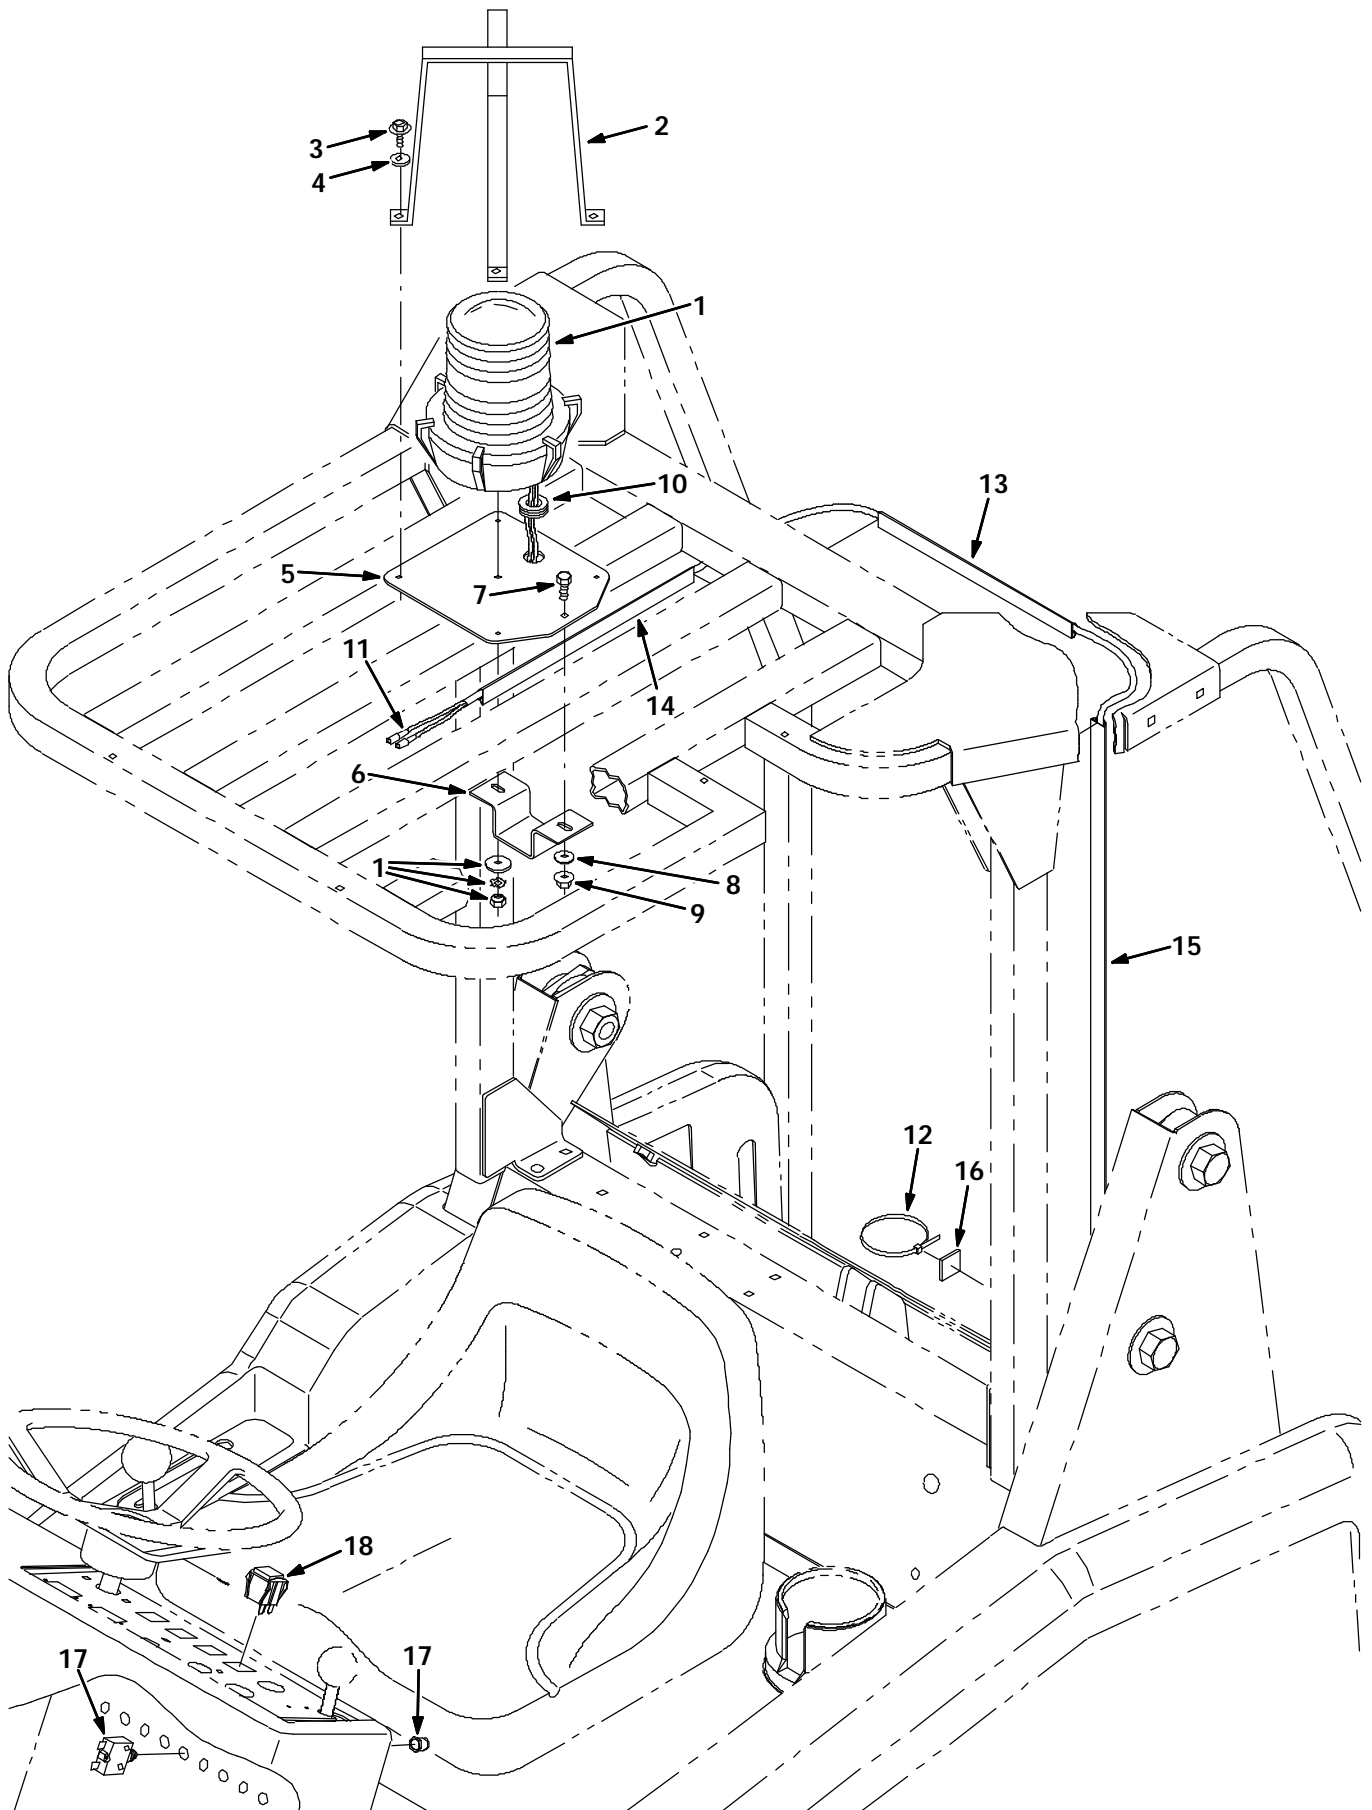

FIG. 1 - FLASHING LIGHT KIT 384123 INSTALLATION
(Refer to FIG. 1, 2 and 3)
2. Install the new circuit breaker (17) in the panel. Wire the circuit breaker (17) into the main harness. (Refer to FIG. 1, 2 and 3)
3. Remove the standard light switch in the control panel, and unplug it from the wiring harness. (Refer to FIG. 1, 2 and 3)
4. Plug the new switch (18) into the wiring harness, and snap it into place in the control panel. (Refer to FIG. 1, 2 and 3)
5. Remove the self adhesive backing strips from the vinyl duct work, and install the three pieces of vinyl duct work (13, 14 and 15) into the positions shown in figures 1 and 2. (Refer to FIG. 1 and 2)
6. Check that the grommet (10) is secured in the light mounting plate (5). (Refer to FIG. 1 and 2)
7. Run the light wiring connections through the grommet in the mounting plate, and connect the light to the light harness (11). Connect the light harness (11) to the main wiring harness. (Refer to FIG. 1 and 2)
8. Assemble the light (1) and mounting plate (5) to the overhead guard with the mounting channel (6), light mounting hardware (1), hex screw (7), washer (8), and hex nut (9). (Refer to FIG. 1 and 2)
9. Starting at the light, press the wiring harness into the vinyl duct work (13, 14 and 15), working down to the base of the overhead guard. (Refer to FIG. 1 and 2)
10. Bundle any excess harness (11) with the cable tie (12), and adhere to the machine with the cable tie mount (16). (Refer to FIG. 1 and 2)
11. Turn the machine power on, and check warning light (1) for proper operation.
12. Mount the lamp guard (2) to the mounting plate (5) with four hex screws (3) and washers(4). (Refer to FIG. 1 and 2)